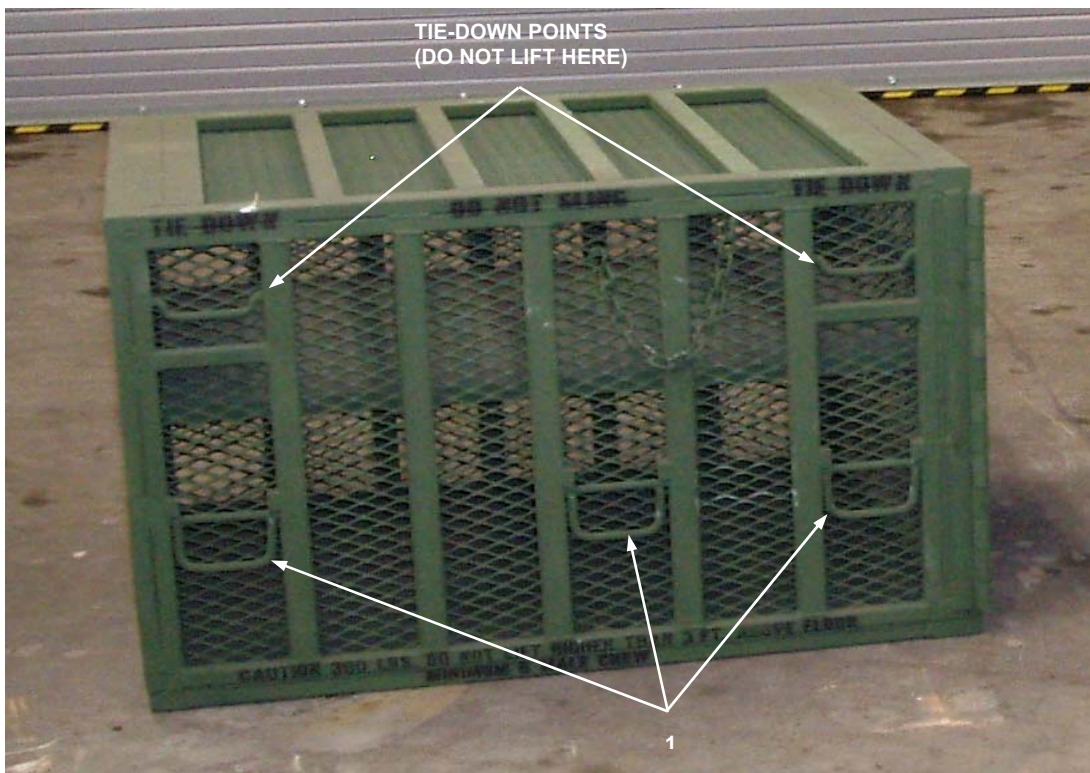

Figure 3-18. Portable HVACSC Carrying Handles.
8. Using the carrying handles (Figure 3-18, Item 1), lift the top unit straight up and place behind the bottom unit. Rotate the cage so that the door is facing the back of the bottom unit.